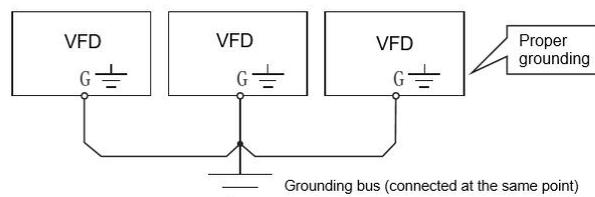

Figure 1-1
- For safety reasons, the grounding terminal of the inverter must be reliably grounded. In order to avoid the influence of ground common impedance interference, the grounding of multiple inverters should adopt a single-point grounding method, as shown in Figure 1-1.